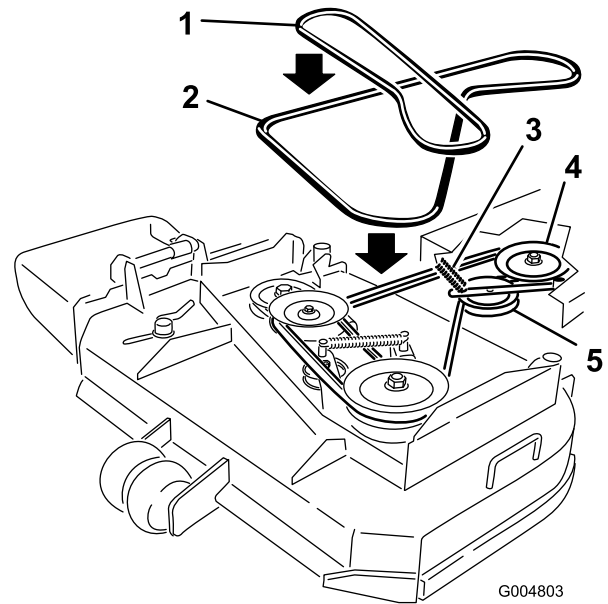

Figure 40
6. Roll the belt off of the center pulley on the mower deck (Figure 40). Use caution when removing the belt as tension will increase because of the spring loaded idler pulley.
7. Remove the belt from the engine pulley and the spring loaded idler pulley (Figure 40).
8. Install the new belt onto the engine pulley and spring loaded idler pulley (Figure 40).
9. Roll the belt onto the center pulley on the mower deck (Figure 40). Use caution when install the belt as tension will increase because of the spring loaded idler pulley.